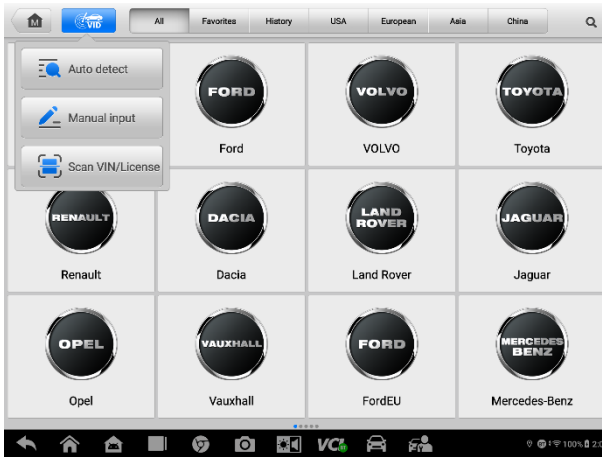

Figure 4-3 Auto Detect Screen
3. Select **Manual Input** in the dropdown list (Figure 4-3).
Tap **Scan VIN/License** in the dropdown list (Figure 4-3), the camera will launch. On the right side of the screen, from top to bottom, three options are available: **Scan Bar Code**, **Scan VIN**, and **Scan License**.